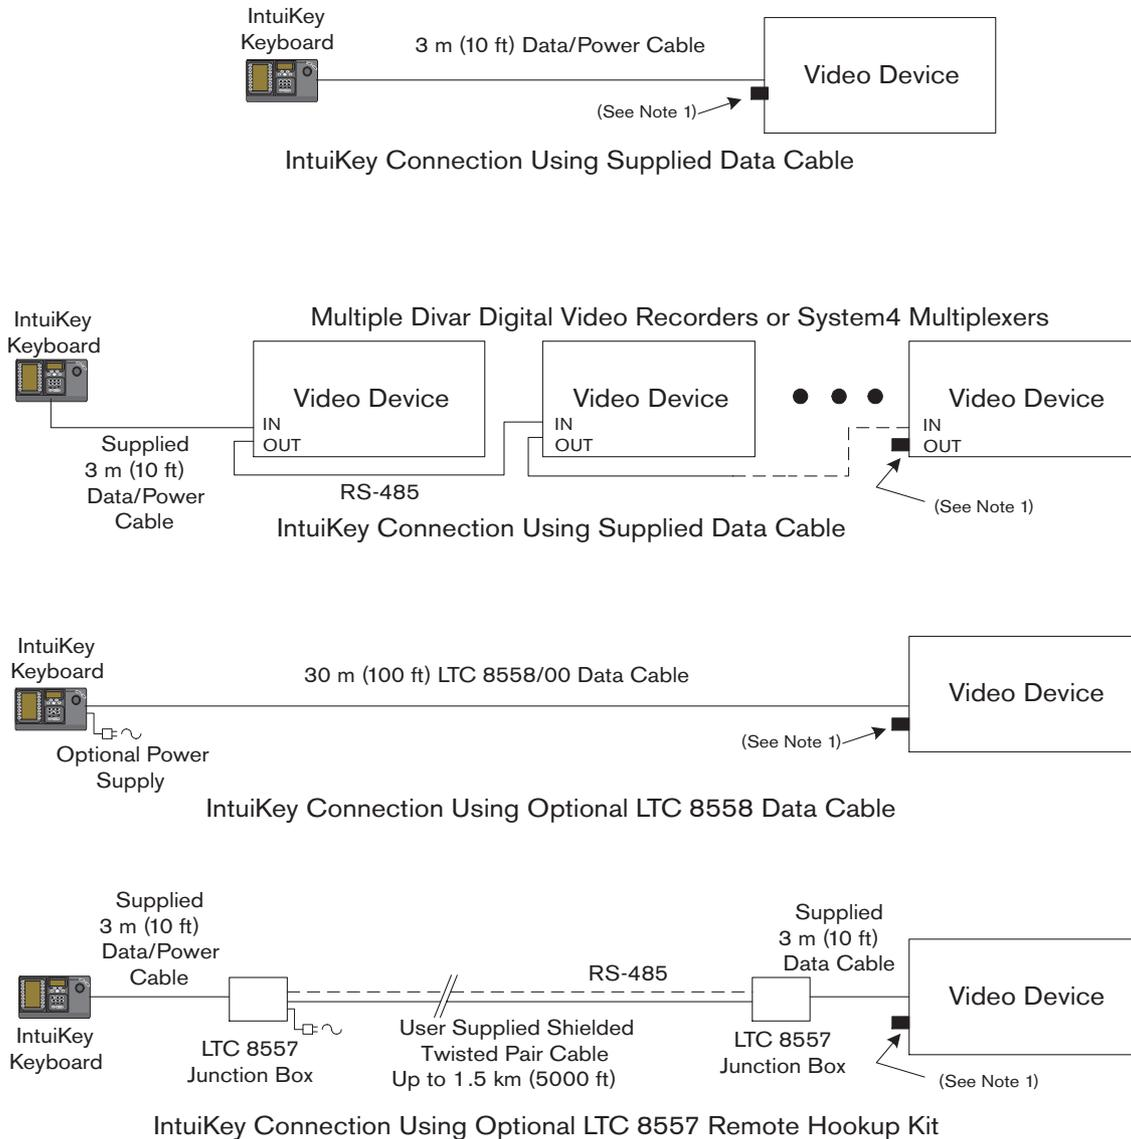

FIGURE 2-4 Typical Intuikey Connection Options
3. Review the configuration options shown in FIGURE 2-4. Make the necessary keyboard data and power connections that are best suited to your system requirements based on these diagrams. When connecting to Divar DVRs or System4 Multiplexers, attach the supplied 390 Ohm terminator to the **Out** connector on the last device.